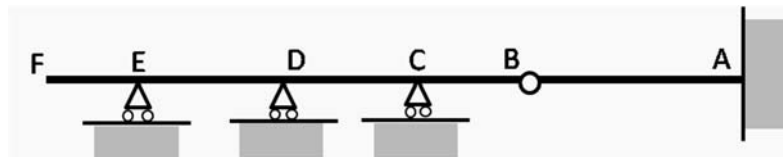

Figure 1
1. (a). **Figure 1** shows a continuous beam with a hinge joint at B. Check statical determinacy of the beam. Suggest a way with proof to reduce the degree of statical indeterminacy of the beam by ONE (1), without changing the support conditions.